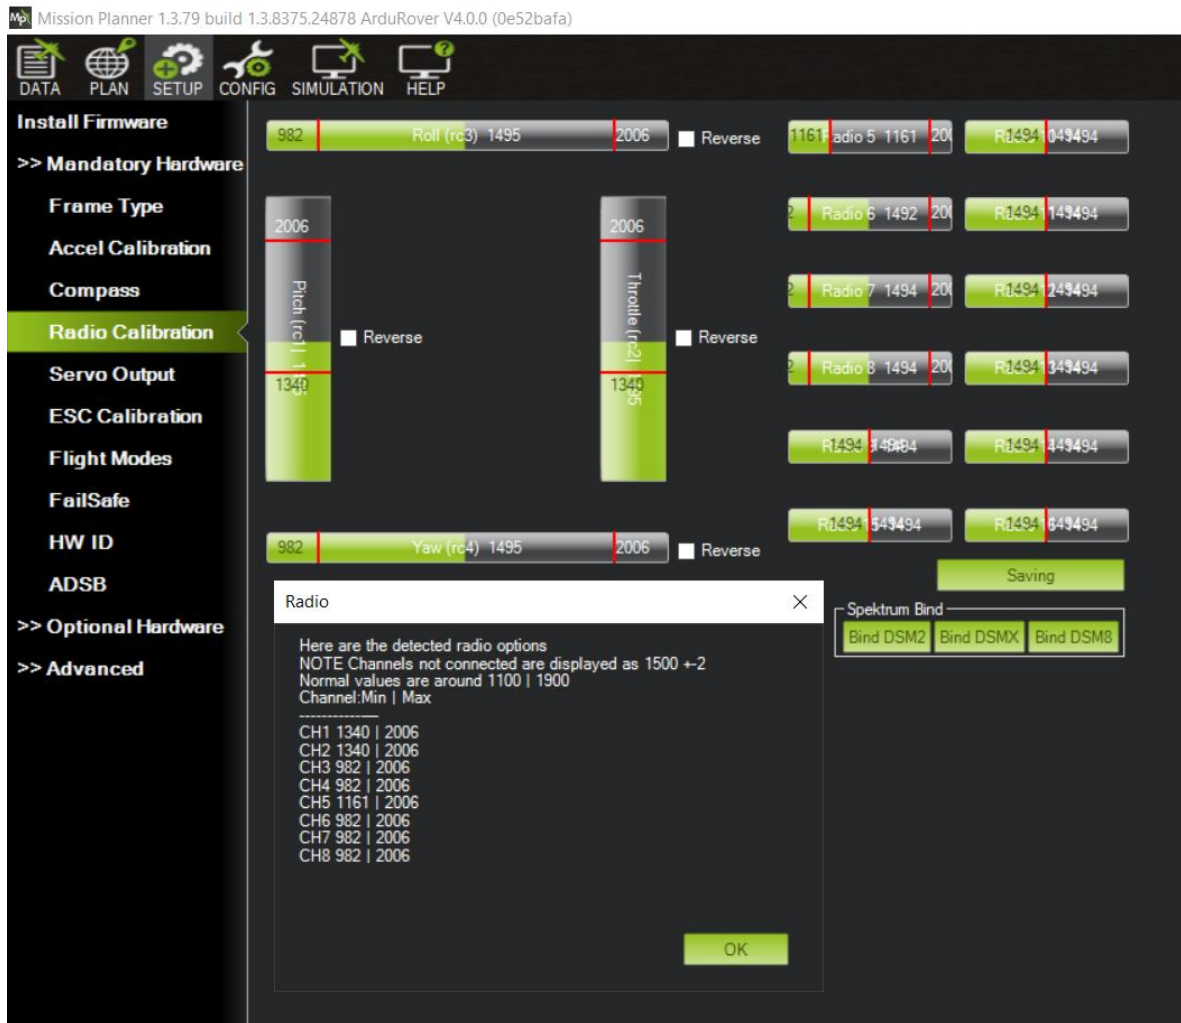

Figure 50: Radio Calibration Verification
13. A page will popup indicating the new min and max values. Press OK. (Refer to Figure 50)